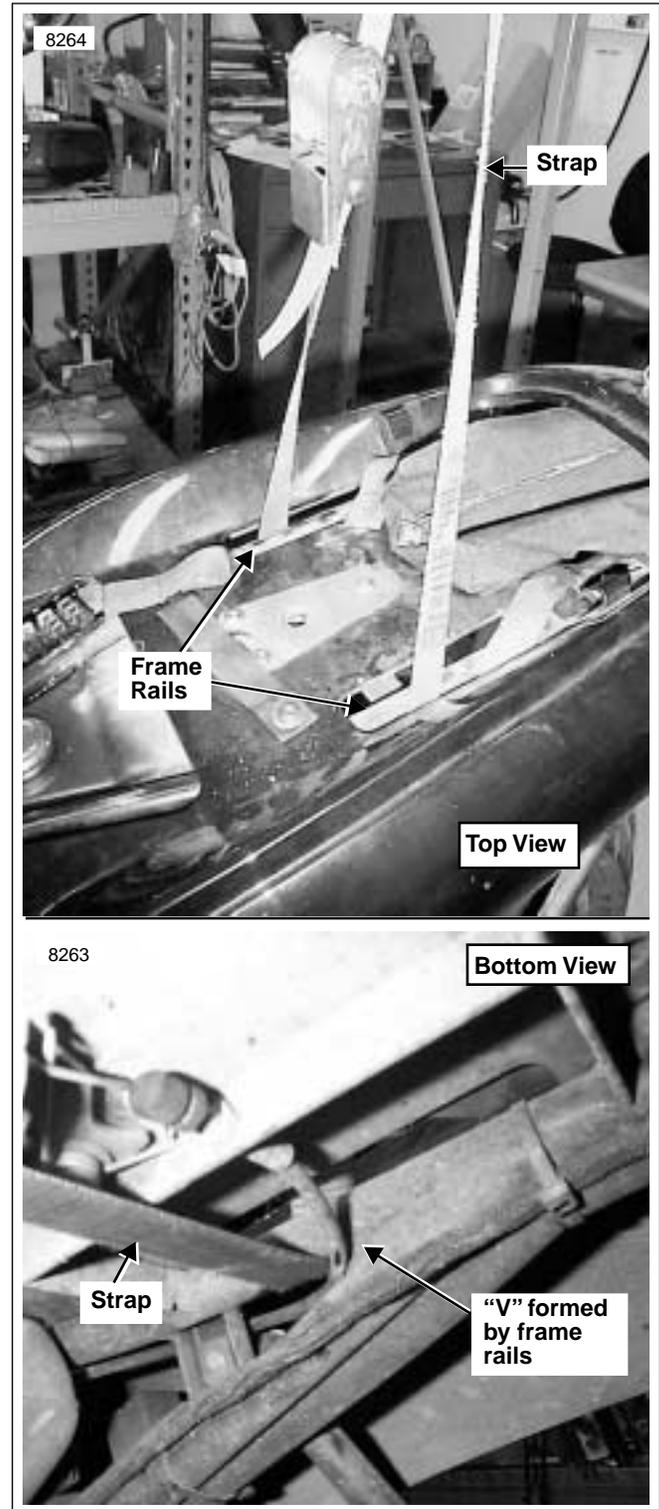

Figure 2. Floor Hoist - M2, S3/S3T Models
See Figure 2. For M2 and S3/S3T models route strap under frame rails with tail section installed. Make sure strap is in "V" formed by frame rails to prevent rearward movement and that it does not pinch wiring harness, vent lines or cables.
7. See Figures 2 and 7. Strap tail section of frame to overhead beam or hoist and put slight tension on strap to secure frame assembly.